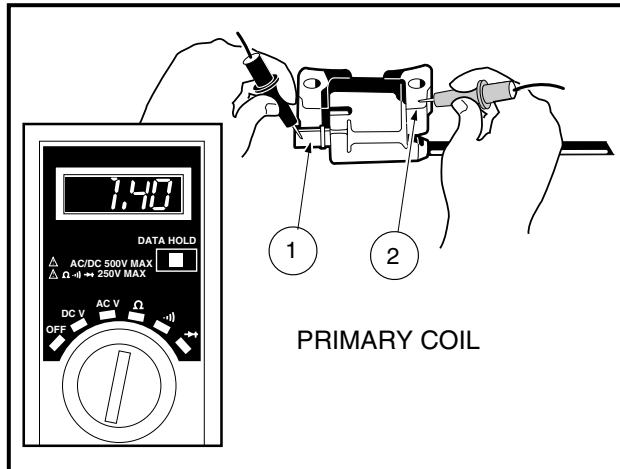

FIGURE 12-30
2. Using a multimeter set on ohms ( $\Omega$ ), measure the primary coil resistance. Place the black (-) probe of the meter on the primary wire terminal connector (1), and place the red (+) probe on the core (2) (**Figure 12-30**).